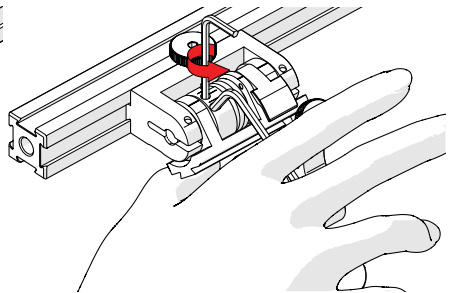

Fig. 83 - Press 3 mm hex wrench down
5. Lightly press the long arm of the 3 mm hex wrench down. Using the 2 mm hex wrench, loosen the force adjustment screw but do not remove it (Fig. 83).